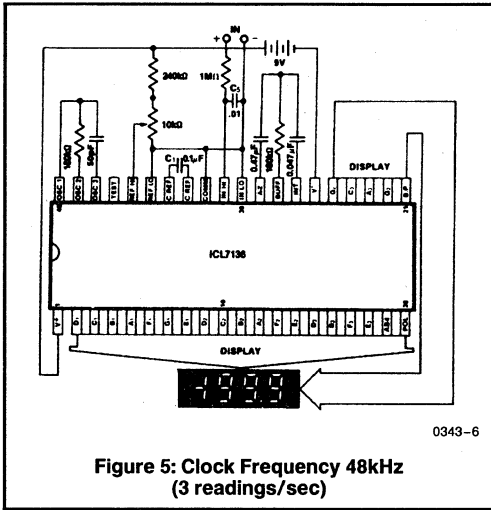

Figure 5: Clock Frequency 48kHz
6. 48kHz oscillator, Figure 5, increases current by 20 μA (typ).